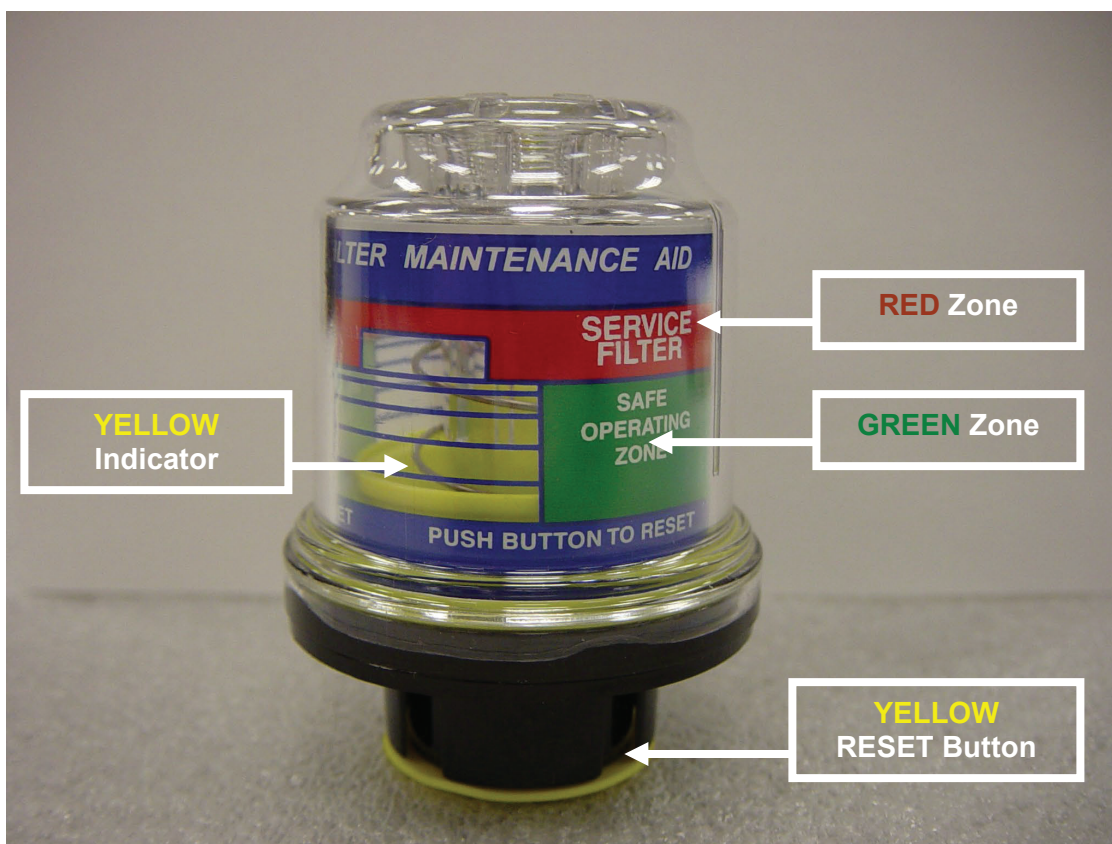

Figure 2: FILTER MAINTENANCE AID
- e. The IBF system provides a means of monitoring the condition of the filter both in-flight and on the ground, and a bypass capability should flow through the filter become restricted. In-flight, a differential pressure switch continuously measures the drop in pressure across the filter and triggers the cockpit indicator/switch cautioning the pilot any time the differential pressure across the filter reaches or exceeds a preset limit. At this point, the IBF is operating at approximately the same inlet differential pressure normally experienced with the EAPS installed. The electromechanically actuated bypass doors permits unfiltered air to enter the engine inlet plenum chamber should the filter media become obstructed and can be opened or closed as required. On the ground, a Filter Maintenance Aid, mounted on the front of the forward filter housing frame, displays the maximum differential pressure across the filter reached during the last flight. It is accessible only on the ground, providing the pilot or mechanic the ability to visually gauge the current condition of the filter. This gives the mechanic the ability to forecast the timing of the next service cycle. The Filter Maintenance Aid can be reset by depressing the yellow button marked "PUSH TO RESET" located on the end of the Filter Maintenance Aid (See Figures 2 & 3).
- c. **FMA CHECK**: The FMA check is performed to ascertain the current condition of the filter or to gage the trend in accumulation of dirt. The FMA check is only a check of the indicator reading (See Figures 2 & 3). As such it is not considered an inspection of the FMA. The inspection Table 3-1 does not require a specific "inspection" interval of the FMA. The condition of the Filter Assembly and its accumulation of dirt will show up as an indication on the FMA. Thus, operational environment, more so than time in service, dictate how often the FMA should be checked in order to help determine the next Filter Assembly service requirement. It is an aid in scheduling the Filter Assembly servicing. At any time prior to an FMA indication in the "RED" (See Figure 2), a failed PAC, or a "FILTER" indication on the cockpit indicator/switch, when maintenance or flight personnel see a trend based on the FMA readings over time that would warrant servicing of the filter due to operational considerations, such as when the aircraft will be operated in a remote or off-site location without the ability to readily service the filter, the filter may be serviced, or replaced. See section 7.2 for a further description of the use of the FMA as it relates to the Filter Assembly service interval. See filter servicing Section 7.3.
The Filter Maintenance Aid is designed to hold the highest differential pressure across the filter assembly reached during the last flight, and should be reset after servicing of the filter assembly by depressing the yellow button marked "PUSH TO RESET" located on the end of the filter maintenance aid (See Figure 2 & 3).